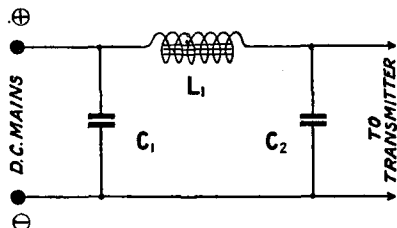
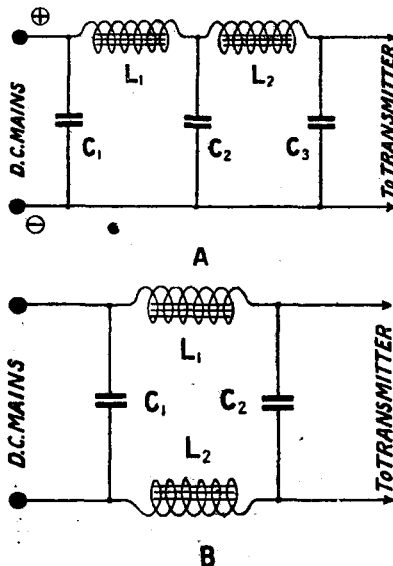

Fig. 1.—This simple filter circuit is usually adequate when power is taken from D.C. mains.
Fig. 3.—Alternative methods of improving the Fig. 1 filter circuit.
H.T. generally does away with the need for smoothing or filter circuits, even when telephony is being used, as the supply is already very steady and smooth. Should any ripple or hum be present, a very simple smoothing circuit such as that shown in Fig. 1 will do. The values of the components are:  $L_1$  (the iron-core choke) 20 henries, while the two fixed condensers  $C_1$  and  $C_2$  should be 2 or 4 microfarads each.
Another means of obtaining a supply of H.T. for a valve transmitter is the use of a small generator, which may be either hand or motor driven. In this case the use of a smoothing circuit is nearly always necessary, and this may be similar to that shown in Fig. 1, but using two chokes and three condensers as shown in Fig. 3 at A, or may be arranged as at B, the values being as follows:—In A,  $L_1$  and  $L_2$  are 20 henries each;  $C_1$ ,  $C_2$  and  $C_3$  are 4 microfarads each; in B,  $L_1$  and  $L_2$  may be 10 henries each,  $C_1$  and  $C_2$  having the values previously given. It should be borne in mind that if ripple or hum is still present it is not nearly so effective merely